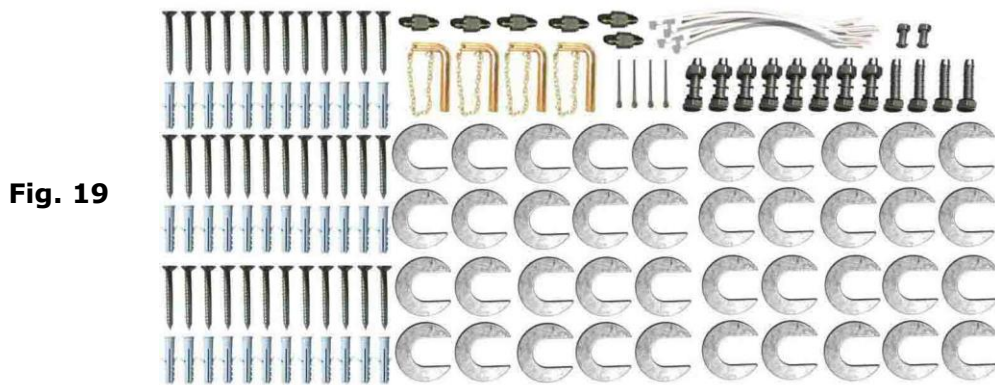

Fig. 19
4.2 Parts bag for flush mount installation (See Fig.19, Fig.20)